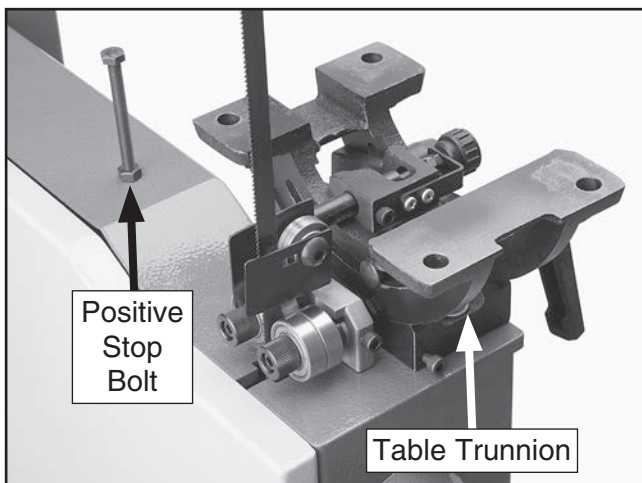

Figure 7. Positive stop bolt installed.
1. Thread (1) M8-1.25 hex nut half way up the length of the included M8-1.25 x 90 hex bolt (the longest one in the hardware bag).
2. Thread the M8-1.25 x 90 hex bolt (otherwise known as the "Positive Stop Bolt") into the casting near the trunnion base, as shown in **Figure 7**.